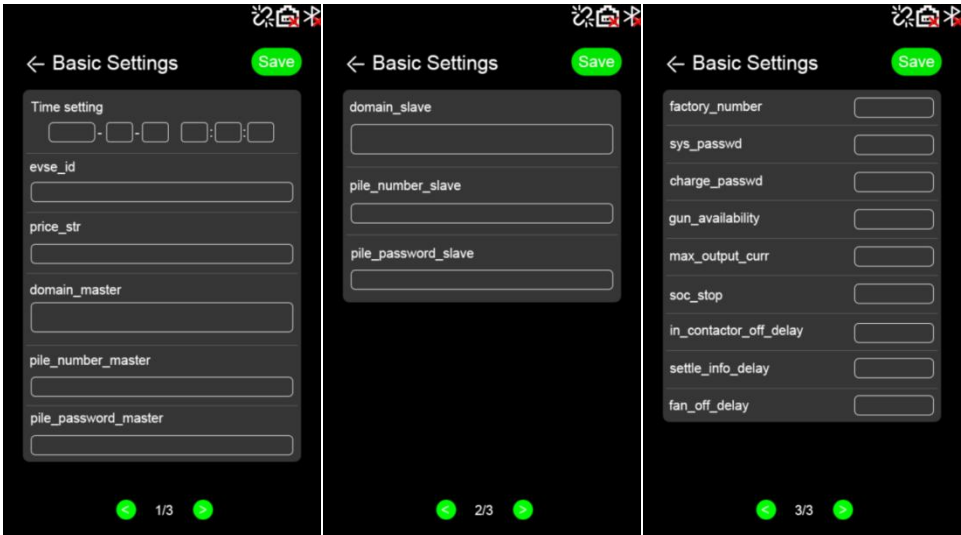

Fig. 6-7 Display of Network Setting
■Setup->>Basic Setting the pictureis shown in Fig.6-7.